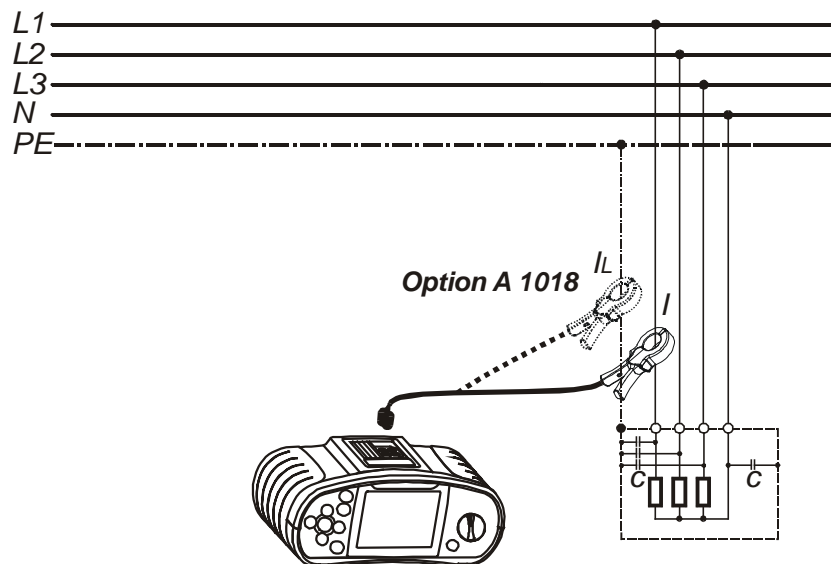

Figure 5.46: Connection diagram
Step 2 Follow the connection diagram shown in figure 5.46 to perform voltage and frequency measurement.
Step 3 Follow the connection diagram shown in Figure 5.46 to perform TRMS current measurement. Use the **Help** function if necessary.